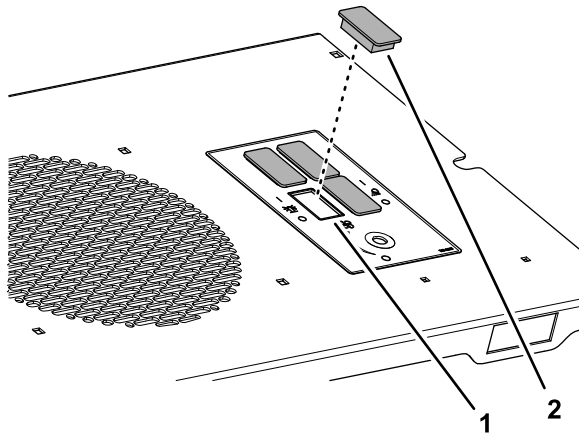

Figure 4
1. Align the plug to the rectangular openings in the switch panel (Figure 4).
2. Insert the plug into the opening until the plug snaps securely into the panel (Figure 4).
3. Repeat step 1 and 2 for the 3 other plugs (Figure 4).